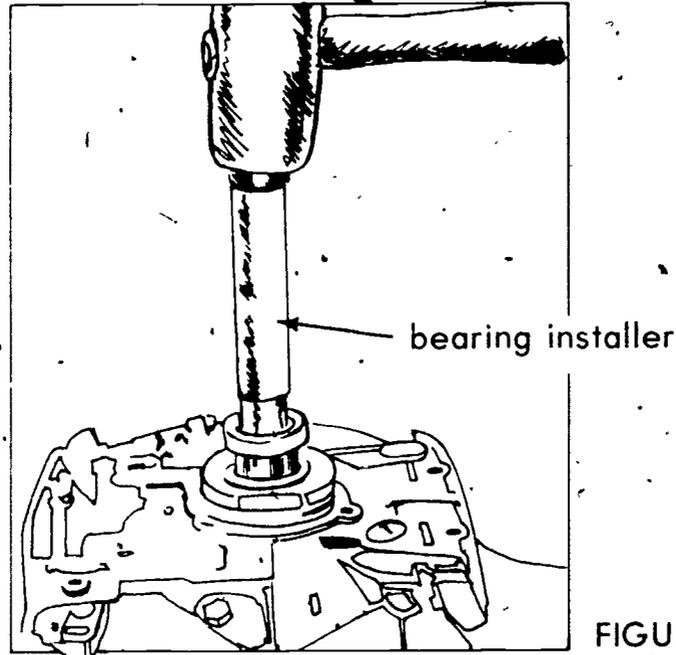

FIGURE 5.
- U. Replace worn bearings in armature plate (Figure 5)